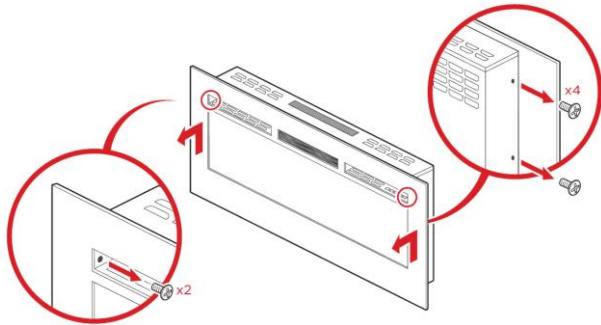
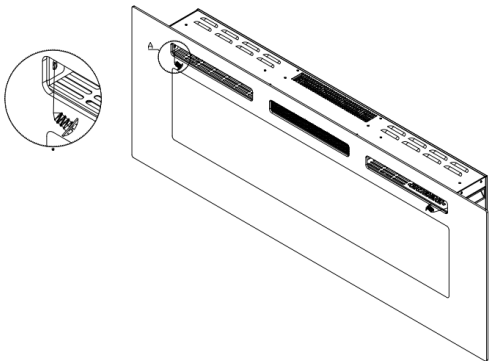

Fig.1
Fig.5
Installation (see Fig1 ~ Fig 5)
- Remove four silver screws from the sides of the heater, two screws on each side. Remove two screws from the front of the heater. Remove the tempered glass by lifting it from the lugs on the sides. see Fig.1
- Fix the tempered glass with 2pcs of 4*8mm screws provided.(Fig.5)